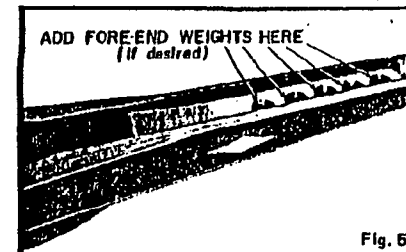

Fig. 5
**FORE-END WEIGHTS (Fig. 5)** - Five (5) cavities are provided inside fore-end (under barrel) for adding weights. Each cavity will hold a .38 caliber, metal case, 130 grain bullet (nose down). Barrel and action must be removed from stock to add weights. To Remove Barrel and Action: Remove bolt. Unscrew and disassemble forward and rear receiver screws. See exploded view. Lift barrel and action from stock. Insert weights and reassemble barrel and action to stock. Make certain nylon receiver screw washers (forward and rear) are in correct position against receiver during reassembly. Also that trigger balance remains centrally positioned on its pin in stock. This will enable top of balance to re-enter slot in trigger link easily. Make certain both receiver screws properly re-enter metal screw escutcheons in stock and tighten action securely.